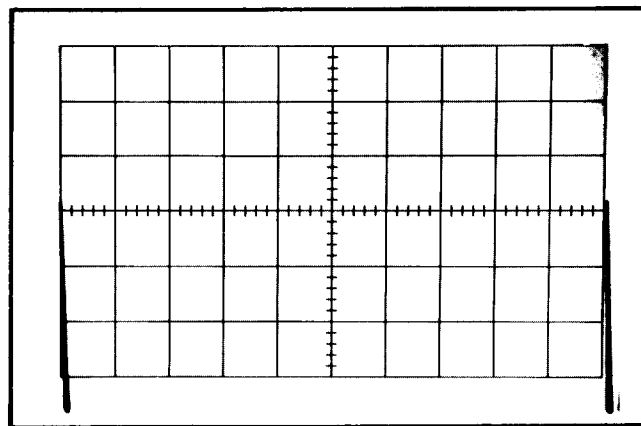

Fig. 6-54. Typical CRT display when checking delayed-sweep accuracy.
c. CHECK—Using the A TIME/DIV switch, B TIME/DIV switch and time-mark generator settings given in Table 6-8, check delayed sweep accuracy within the given tolerance. First set the DELAY-TIME MULTIPLIER dial to 1.00 and rotate the dial until the sweep starts at the top of the second marker (see Fig. 6-54). Note the dial reading and then set the dial to 9.00 and rotate until the sweep starts at the top of the tenth marker. DELAY-TIME MULTIPLIER dial setting must be 8.00 divisions higher, + or – the allowable error given in Table 6-8.